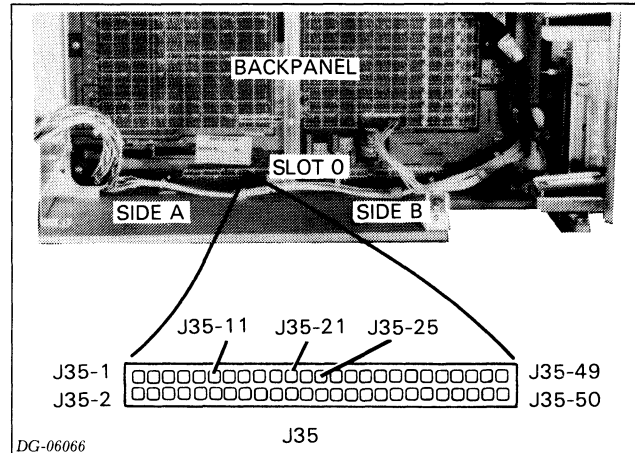

Figure 6.7 Jack 35
4. Short **MEMD** at J35-21 to GND at J35-1 (see Figure 6.7). Before continuing the checkout, make sure you have shorted the correct pins.
- Check the **-11V** voltage at J35-25 (see Figure 6.7).
- b. If the light is NOT on, check the **ONLED-P** voltage at J35-11 (see Figure 6.7).
2. Check the +12 MEM voltage at location J35-3 (see Figure 6.7).